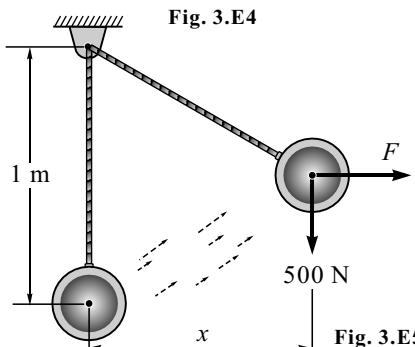

Fig. 3.E5
6. A bar AB of weight 1 kN is hinged to a vertical wall at A and supported by a cable BD as shown in Fig. 3.E6. Find the tension in the cable and the magnitude and direction of reaction at the hinge.